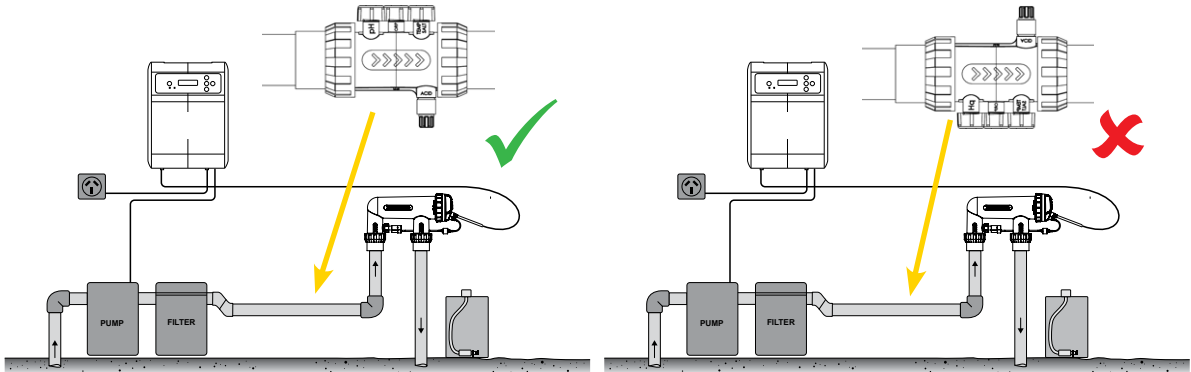

Figure 4.5
- The housing is installed so the 3 probes insert into the housing from above. The acid injection point is underneath (refer Figure 4.5)